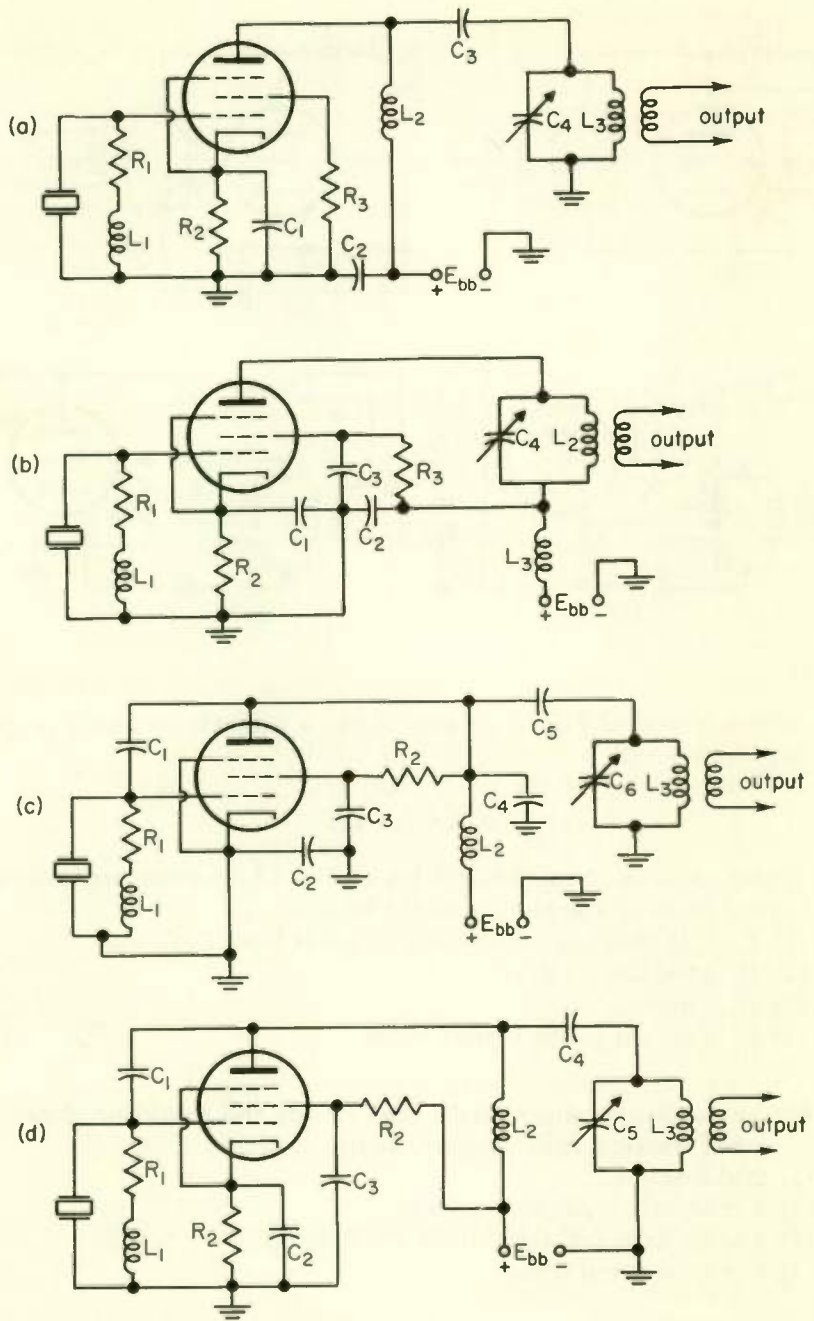

Fig. 35
- (2) It will decrease.
- (3) The frequency will increase when oscillator output is light, but decrease with a heavy output load.
- (4) Oscillator frequency will not change.
29. Which circuit of Fig. 35 (if any) shows a pentode tube with *shunt-fed plate* circuit properly connected to form a crystal controlled oscillator.